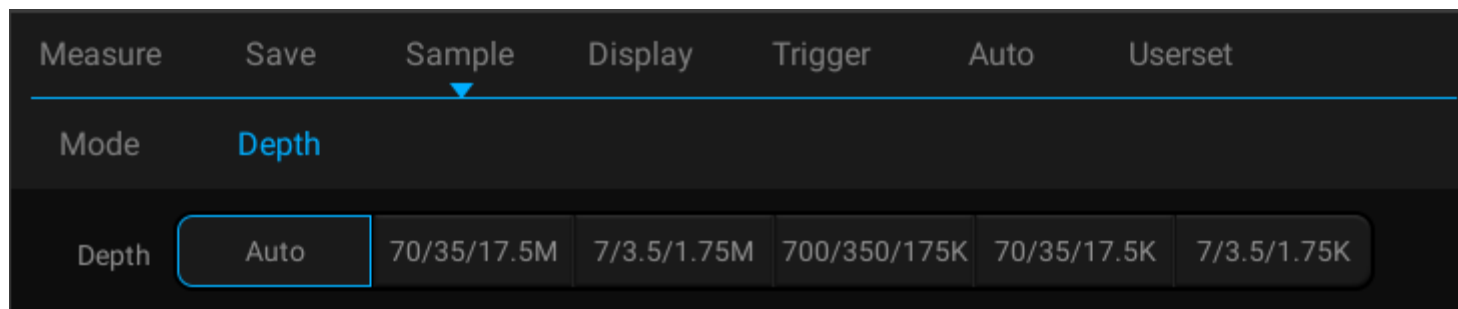

Figure 12-9 Record Length
**UART text interface description, see Figure12-9:**
- (1) S1/S2/S1&S2 is channel configuration bus information.
- (2) Area for decode data.
- (3) ASCII code corresponding to the text data (when the data format is 9 bits and there is no parity bit, ASCII code corresponds to lower 8 bits of data on the left side).
- (4) Counter: Calculates the total number of frames and the percentage of ERR (parity error and stop bit error) frames.
- (5) Clear: Clear the counter data.
- (6) Roller bar.